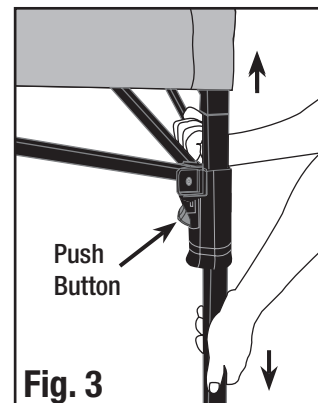

Fig. 3
- Pull up sliding bracket located on upper portion of leg until push button snaps into place. (Fig. 3) This will ensure top of frame is fully extended.